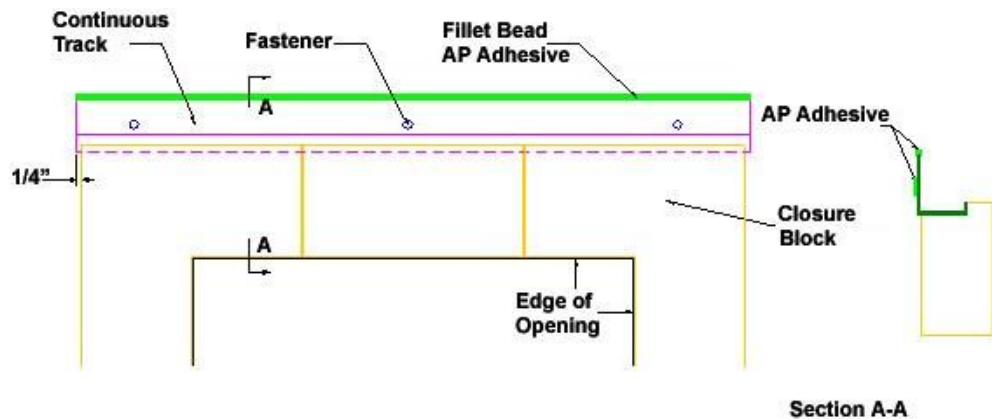

Fig. 25
9. Cut a piece of Dryvit Track to length so that it extends 1/4 in (6.4 mm) beyond the edge of the Closure Blocks as shown in Figure 25.